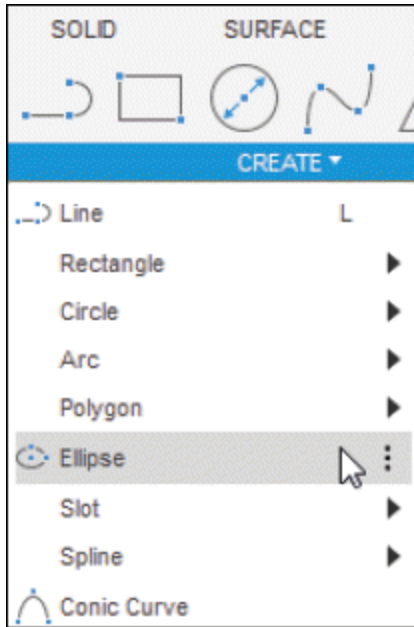

Figure-29. Ellipse tool
- Click on **Ellipse** tool of **CREATE** drop-down from **Toolbar**; refer to Figure-29. You will be asked to specify center point for ellipse.